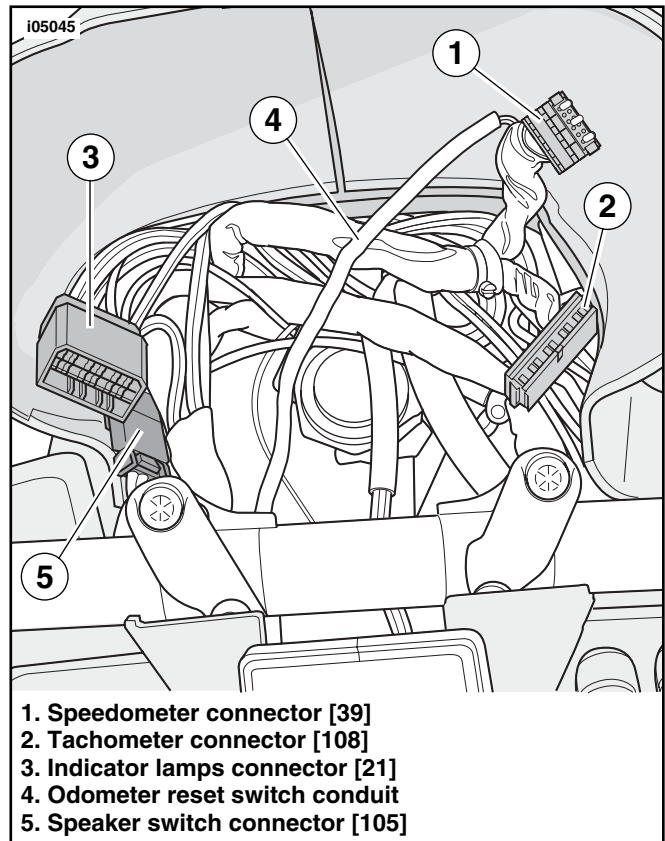

Figure 6. Connectors (behind instrument bezel)
5. See Figure 6. Separate instrument and indicator lamp connectors from interconnect harness:
7. Using a 7/8 inch wrench on flats, loosen nut (3) and remove from threaded post of ignition switch housing. Remove collar (4) and spacer (5).
- ## Remove Nacelle Half (LH)
9. See Figure 6. Separate speaker switch connector [105] to disconnect the left side nacelle switches from the interconnect harness.
25. See Figure 6. Connect instruments and indicator lamps to in interconnect harness: